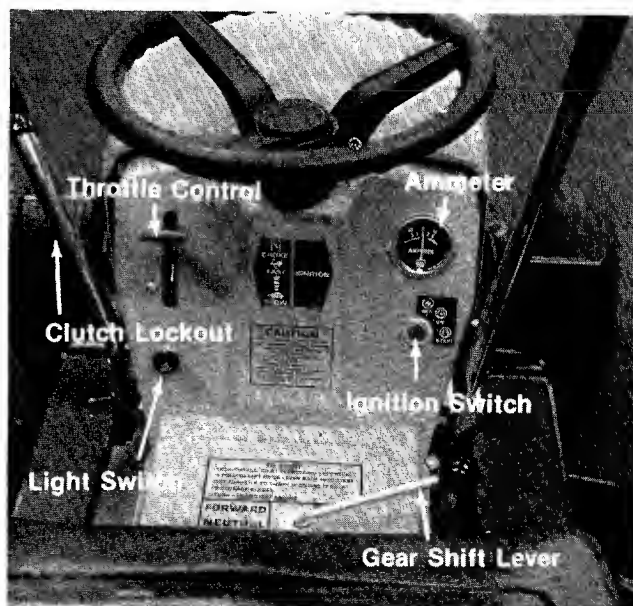

FIGURE 7. CONTROLS
a. **Throttle Control.** The throttle control is used to regulate the engine speed and choke the engine. The engine should be operated from $\frac{3}{4}$ to full throttle when operating the cutting deck or snow thrower (optional). See figure 7.
b. **Gear Shift Lever.** The gear shift lever is used to shift into one of four **Forward Gears**, **NEUTRAL** or **REVERSE**. See figure 7.
h. Ammeter. (Electric Start Model Only) The ammeter registers the rate of battery charge or discharge. The ammeter should register on the plus side (+) when the engine is running the fast position until the battery is completely charged. With a fully charged battery or with the engine idling the ammeter will not show a charge. See figure 7.
i. Light Switch. (Electric Start Only) Pull the light switch out to turn on the lights. The lights will only operate when the engine is running. See figure 7.
Electric Start. See figure 7. Turn the key to the START position to start the engine. When the engine is running, let the key return to the ON position. To stop the engine, turn the key to the left to the OFF position and remove it to prevent accidental starting.
Step 4. Set the throttle control in the CHOKE position. See figure 7.
See figures 7 and 15. Turn the ignition key to the START position. When the engine is running, let the key return to the ON position.